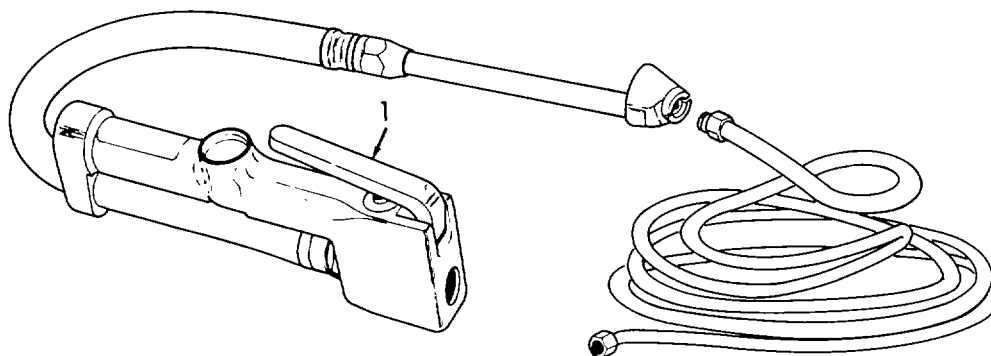

Figure 3-43. Inflator Gage, Removal.
- a. *Removal.* Disconnect inflator gage (1, Figure 3-43).